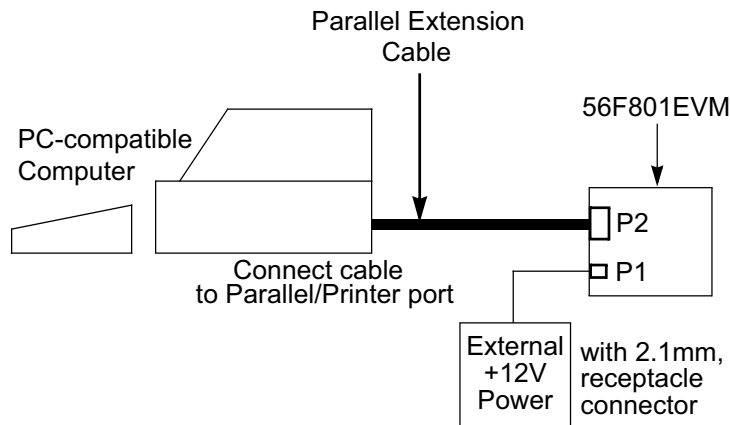

Figure 1-3. Connecting the 56F801 EVM Cables
An interconnection diagram is shown in Figure 1-3 for connecting the PC and the external +12V DC power supply to the 56F801EVM board.
2. Connect the other end of the parallel extension cable to P2, shown in Figure 1-3, on the 56F801EVM board. This provides the connection which allows the host computer to control the board.
4. Connect the 2.1mm output power plug from the external power supply into P1, shown in Figure 1-3, on the 56F801EVM board.